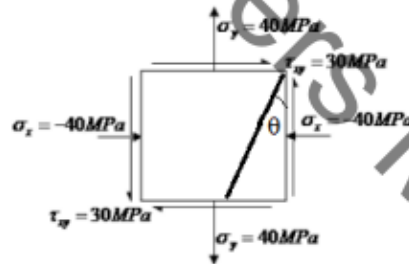

Figure: 4
- 6.a) A rectangular block of material is subjected to normal and shearing stresses on the planes shown in Figure 4. Find analytically
- b) Solve the above problem shown in Figure 4 by using Mohr's circle method. [8+7]